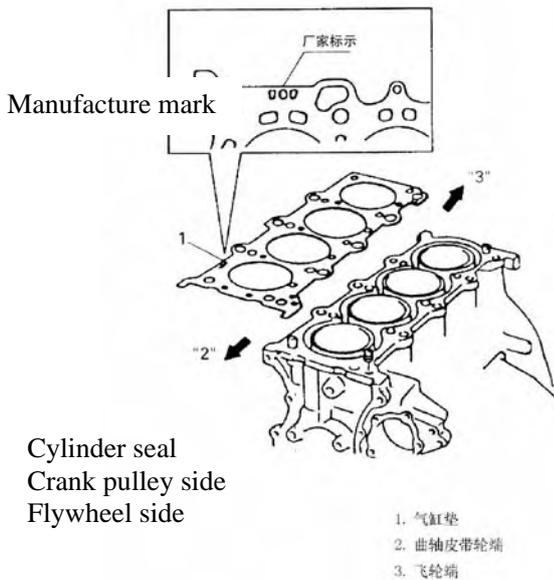

Fig. 4-123
5) Press valve spring by special tool, install two valve circlips to the groove of the valve stem as shown in Fig. 4-123.